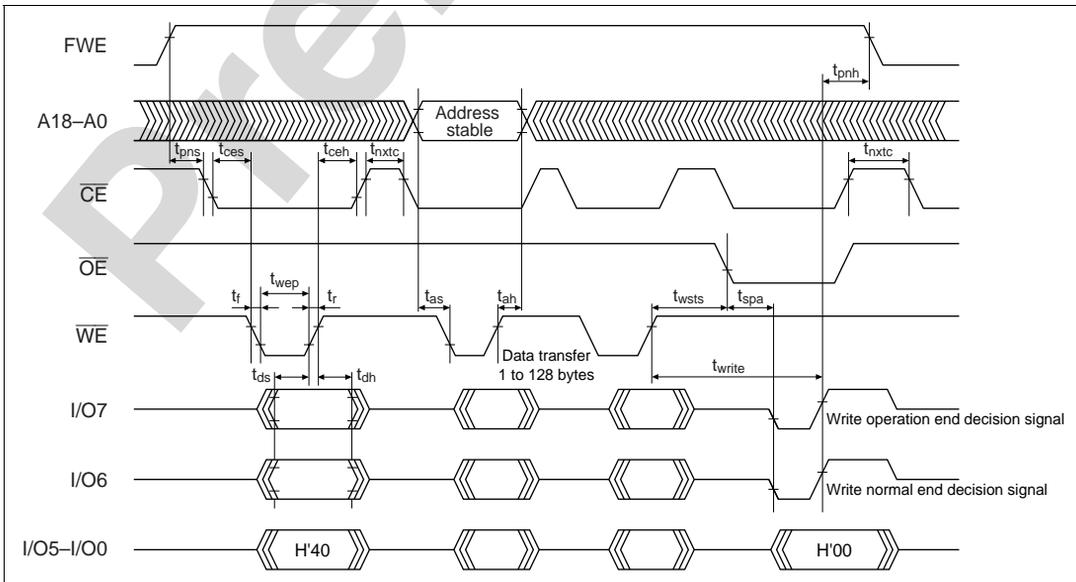

Figure 19-22 Auto-Program Mode Timing Waveforms
4. Memory address transfer is performed in the second cycle (figure 19-22). Do not perform transfer after the third cycle.